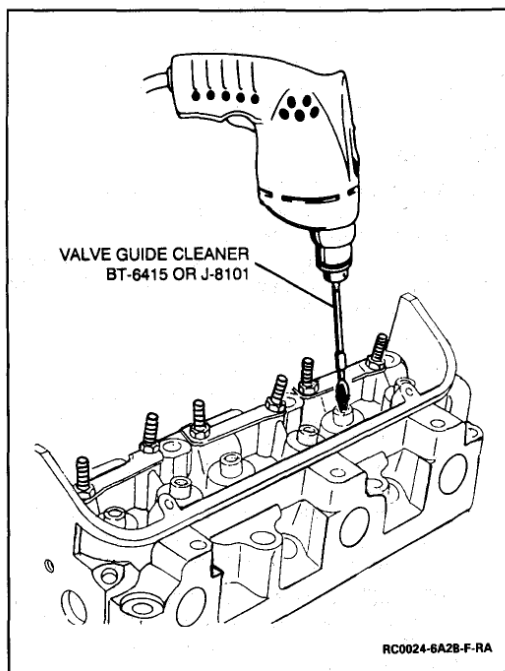

Figure 51 Cleaning Valve Guide
1. Cylinder head bolts (115).
2. Cylinder head (113). Carefully remove all varnish, soot and carbon to the bare metal. **DO NOT** use a motorized wire brush on any gasket sealing surface.
3. Valve guides as shown in Figure 51.